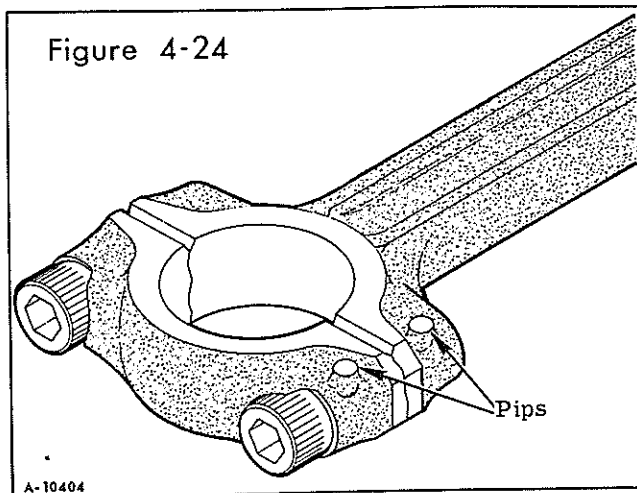

Figure 4-24
2. Align the pips on the rod and cap (Figure 4-24). Make sure the rod and cap mate properly. If they do not, the cap is the wrong cap and the correct cap will have to be found and used or a new rod and cap used.